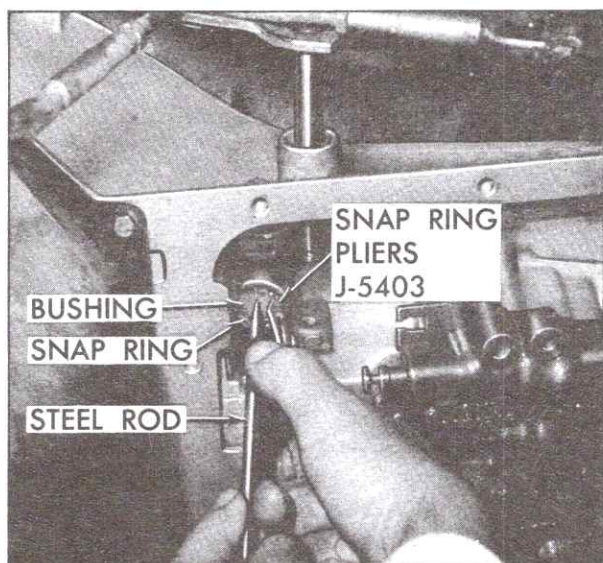

Fig. 7-26 Removing and Installing Pressure Regulator Valve
5. Using a screwdriver or steel rod, compress regulator boost valve bushing against pressure regulator spring, Fig. 7-26.
5. Using a screwdriver or steel rod, compress regulator boost valve bushing against pressure regulator spring until it is beyond snap ring groove, and install snap ring using Snap Ring Pliers, J-5403 (#21), Fig. 7-26.